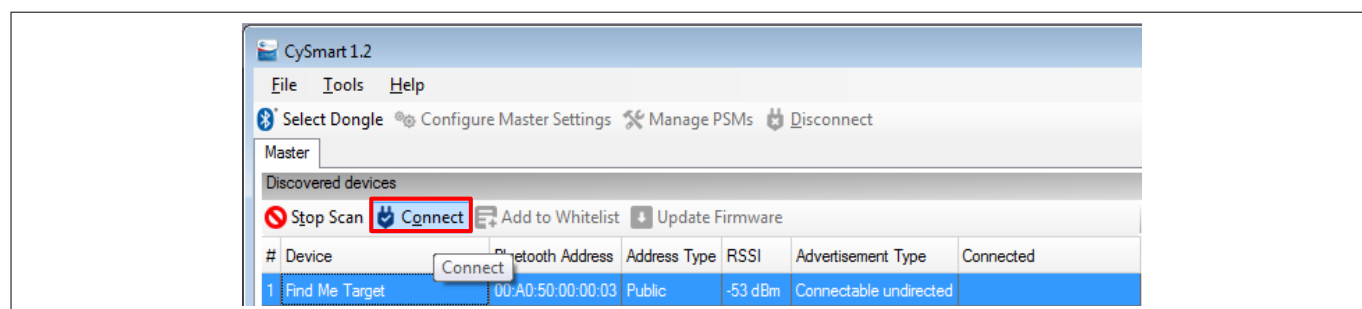

Figure 58 CySmart device connection
- Select **Find Me Target** and click **Connect** to establish a Bluetooth® LE connection between the CySmart Host Emulation Tool and your device, as shown in Figure 58